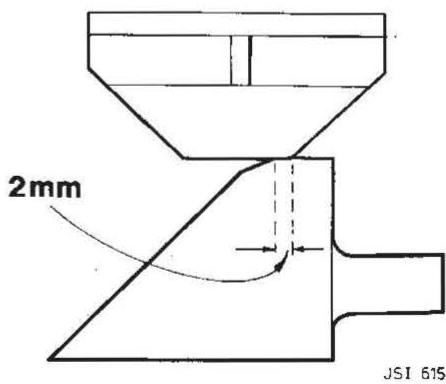

FIG 9
3. Examine the marking on the riser blocks from contact with the sliding lid brackets. The marking should indicate an overlap of 2 mm onto the top level surface (Fig 9).